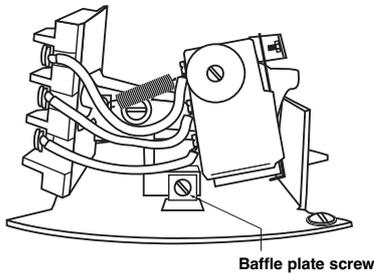

Figure 10
4. Remove small round head screw securing lower switch mechanism to baffle plate, refer to Figure 10.